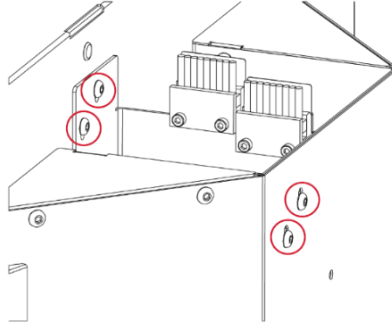

Fig. 14 Screws for adjusting the cleaning station
1. Loosen the four cleaning station adjustment screws marked in Fig. 14.
3. Tighten the screws loosened in step one above (Fig. 14).